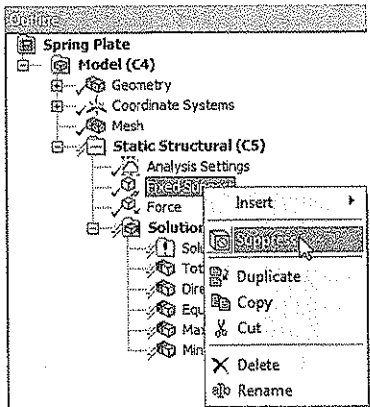

Figure 9-56 Choosing the *Suppress* option from the shortcut menu
6. Choose the **Suppress** option from the shortcut menu displayed, as shown in Figure 9-56; a cross icon (X) is placed on the left of **Fixed Support** in the Tree Outline, indicating that this support is not available for analysis anymore.